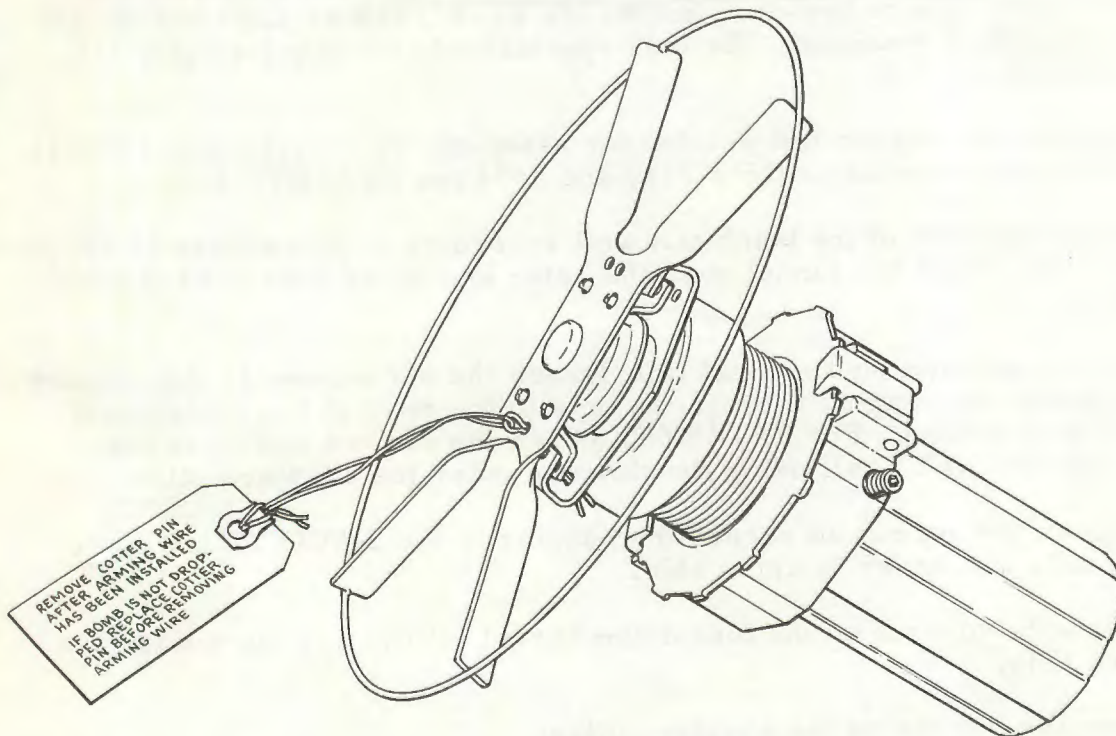

Figure 5-9 Adapter Coupled to Fuze Drive
The two latches on the adapter collar are secured over the fuze drive locknut when the entire assembly is installed in a weapon. Figure 5-9 shows the assembled fuze drive and adapter as it would be installed in a weapon.
10. Hand-tighten the locknut down the fuze drive barrel until it contacts the adapter. Back it off as little as necessary so that the two latches can be secured to the locknut as shown in Figure 5-9.